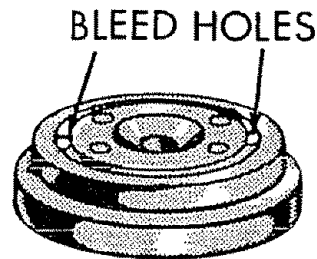

FIGURE 24
5. Check to make sure the tiny bleed holes in the diaphragm are not clogged. See Figure 24. Clean bleed holes, if necessary, using a pin or needle.